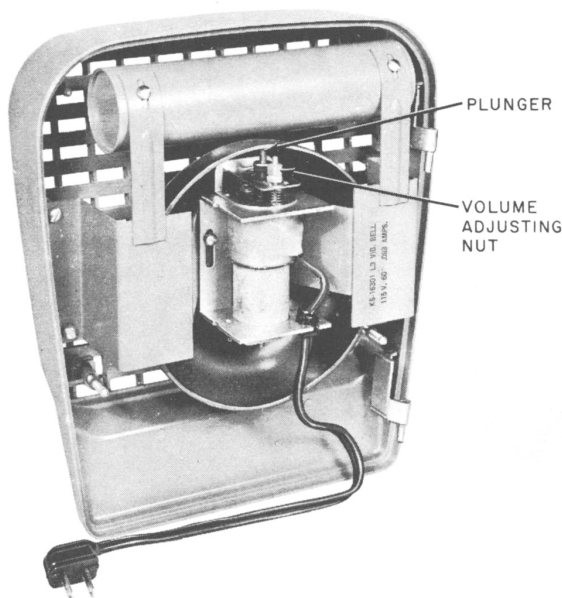

Fig. 7—KS-16301, List 3 Bell—Vibrating
4.01 The KS-16301, List 3 (vibrating bell) has a volume adjustment. On the Wheelock Signal Company-type, the adjustment is a hexagonal nut on the rear of the signal (Fig. 7). The Sperti-Faraday Company-type adjustment is on the back of the bell resonator. The direction of adjustment is stamped near the adjusting nut or screw.